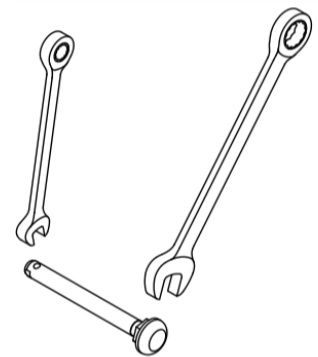

Figure 14.30: Quick release axle adjustment
- Using a 7/16" open end wrench, securely hold the detent ball end of the axle. (See Figure 14.30)